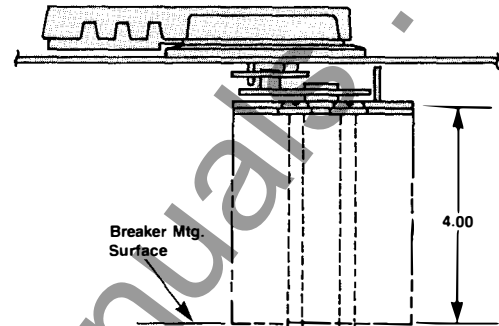

**Fig. 1
- A. Drill and tap breaker mounting holes as shown in Fig. 1.